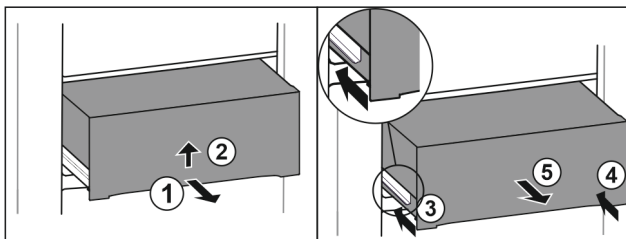

Fig. 36
- ▶ Pull out drawer half-way. Fig. 36 (1)
- ▶ Lift the drawer from the bottom. Fig. 36 (2)
- ▶ Insert left rail. Fig. 36 (3)
- ▶ Insert right rail. Fig. 36 (4)
- ▶ Remove drawer to the front. Fig. 36 (5)